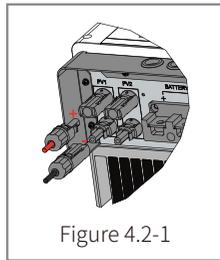

Figure 4.2-1
- **Battery Connection:** Check the connection between the EM inverter and the battery: Polarities (+/-) must not be reversed (refer to figure 4.2-1).